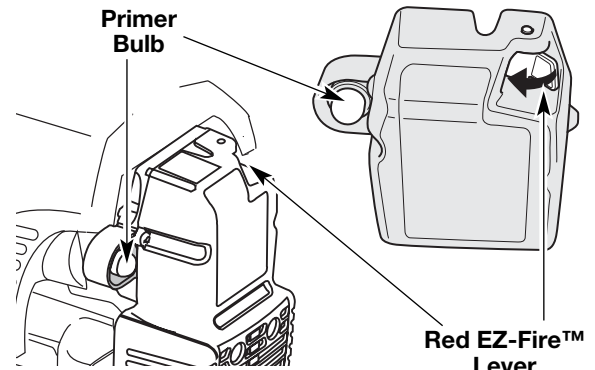

Fig. 10
1. Move the throttle control to the idle position (🐷). Allow the engine to cool down by idling (Fig. 10).
2. Put the On/Off Stop Control in the OFF (O) position (Fig. 10).
2. The On/Off Stop Control is in the ON (I) position at all times (Fig. 10).
3. Fully press and release the primer bulb 10 times, slowly. Some amount of **fuel should be visible in the primer bulb** and fuel lines (Fig. 10). If you can't see fuel in the bulb, press and release the bulb as many times as it takes before you can see fuel in it.
5. **Push the red EZ-Fire™ Lever towards the primer bulb** until it clicks and locks into place (Fig. 10).